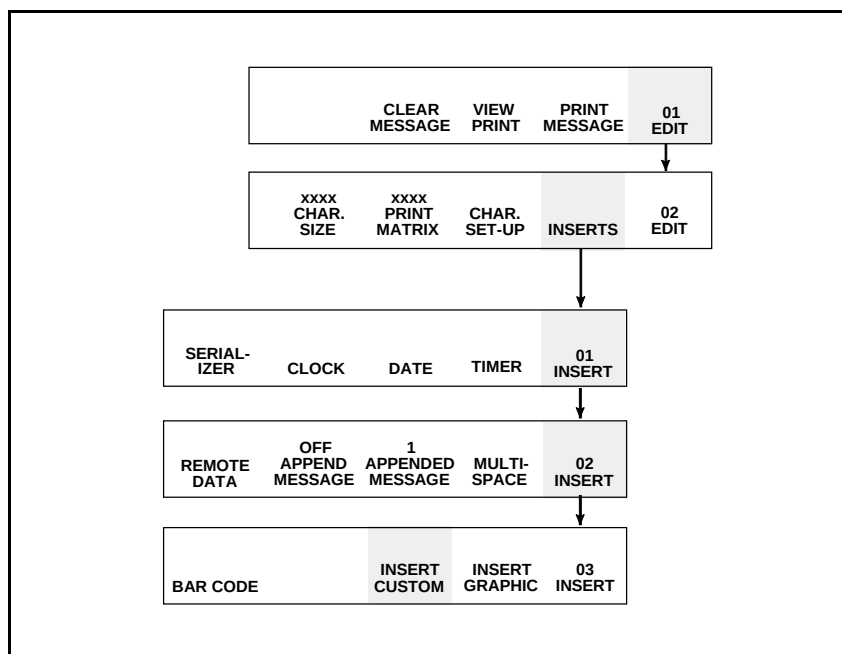

Figure 6-44. Accessing Frame <03 INSERT>
1. Begin in Frame <03 INSERT>. Refer to Figure 6-44.